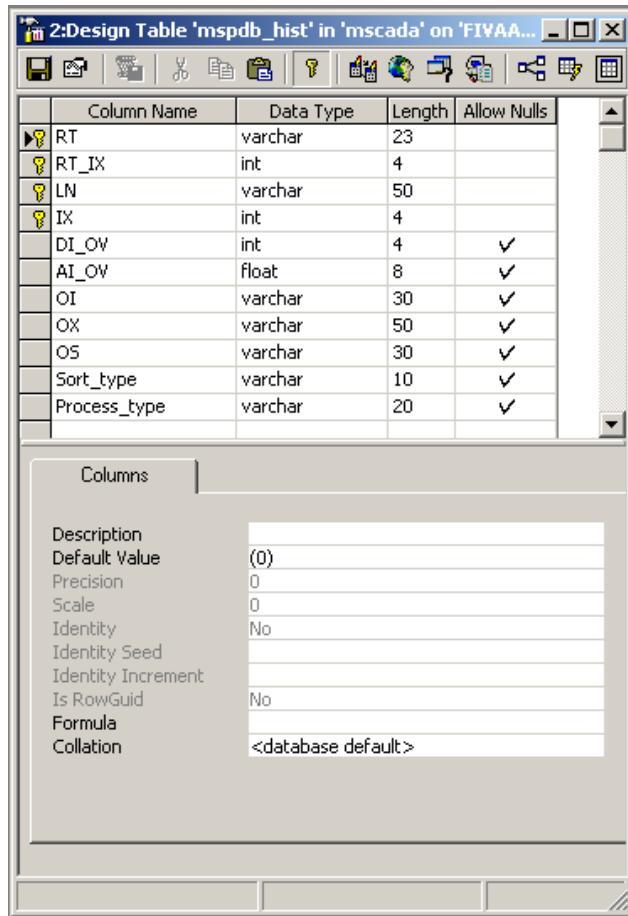

Figure 29: Defining table for the history recording
2. Name the table columns for the database as shown in Figure 29.